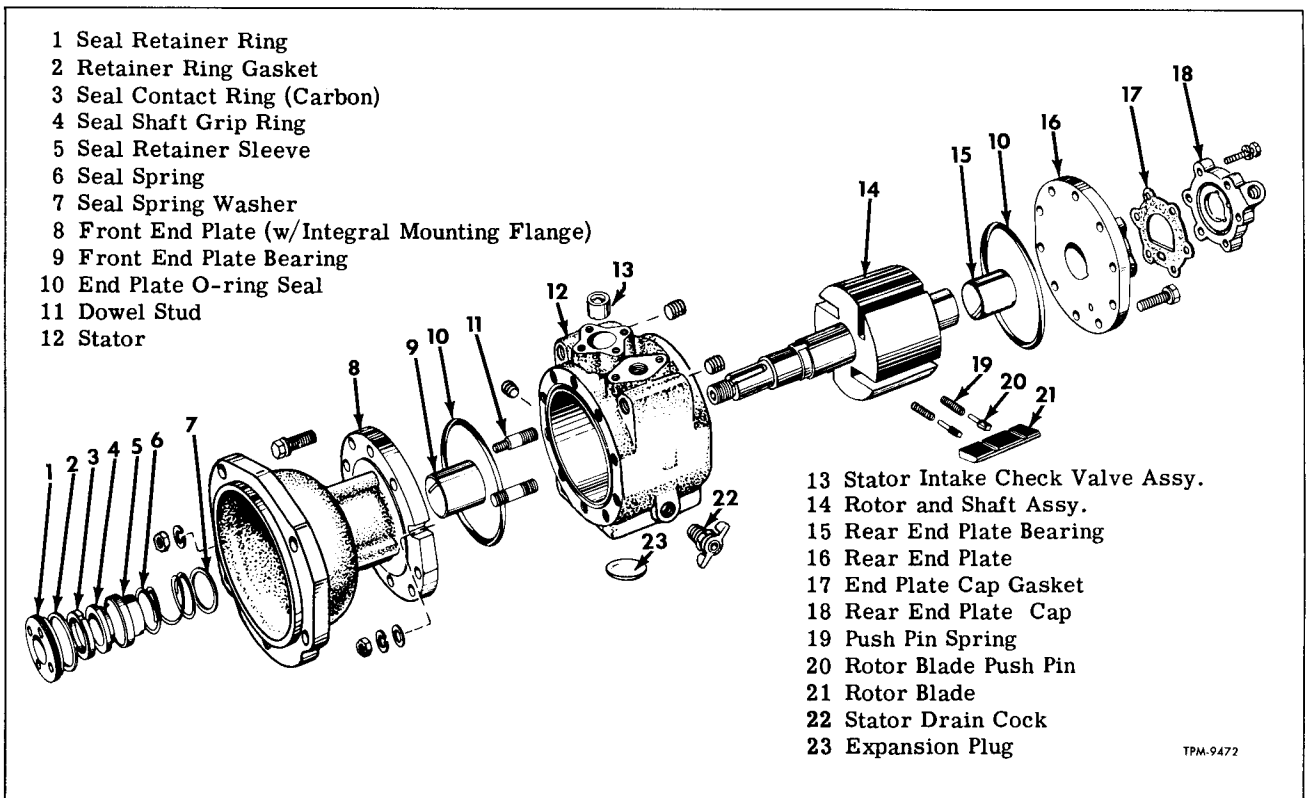
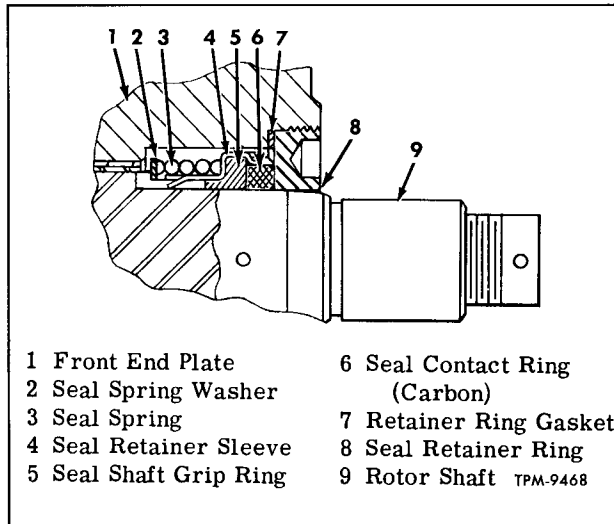

Figure 7—Air Compressor Components
Figure 8—Rotor Shaft Seal Components Installed
(Key Numbers in Text Refer to Figure 7, Unless Otherwise Indicated)
8. Install rotor shaft seal components (1 thru 7) over rotor shaft and into front end plate in the order shown in figure 7. Seal components installed are shown in figure 8. Use spanner wrench (AL74) to tighten seal retainer ring (1) to 125 foot-pounds torque.
9. Install gasket (17) and cap (18) on rear end plate, with marks made prior to disassembly aligned. Attach cap to end plate with six cap screws. Tighten cap screws firmly.
10. Install stator intake check valve (13) in intake bore in top of stator, and install drain cock (22) in side of stator.